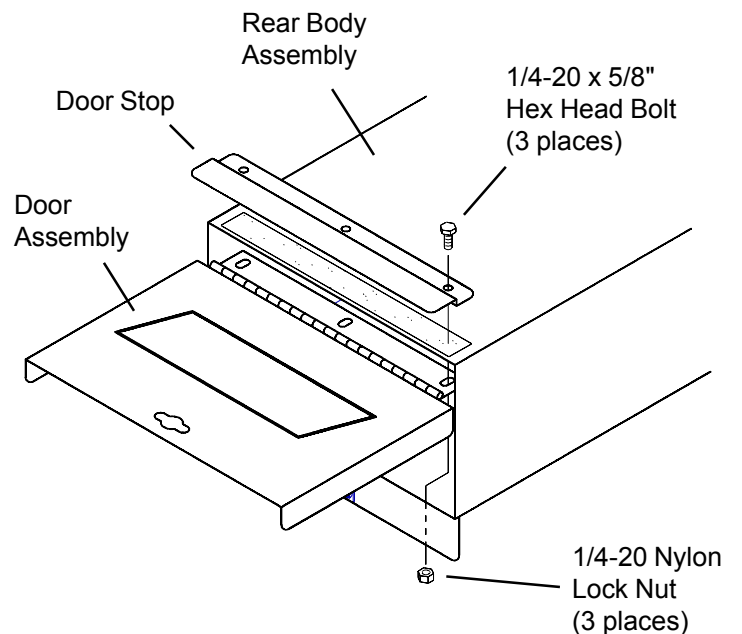

Figure 3. Door Stop and Door to Body Assembly
2. Place the Door Stop on top of the Rear Body Assembly and the Door inside. Poke the fasteners through the Weatherstrip, and loosely fasten the Door Stop and Door. Center the Door on the Rear Body Assembly, then tighten the bolts (see Figure 3.).